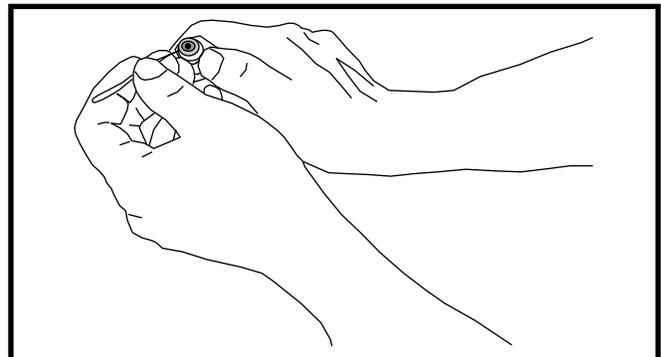

Figure 3. Removal of Orifice
2. Insert a light-gauge wire hook between the valve body and the restrictor orifice (Figure 3, page 4) while being careful not to scratch either part. Carefully remove the restrictor orifice from the valve body.